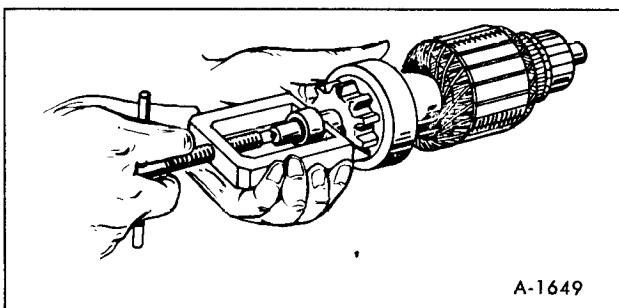

Figure 61-Installing Overrunning Clutch
2. Install the overrunning clutch assembly, the ring and the stop ring on the armature shaft. Drive pinion stopper far enough on shaft to install stop ring. Then using a puller (figure 61) pull stopper against ring.